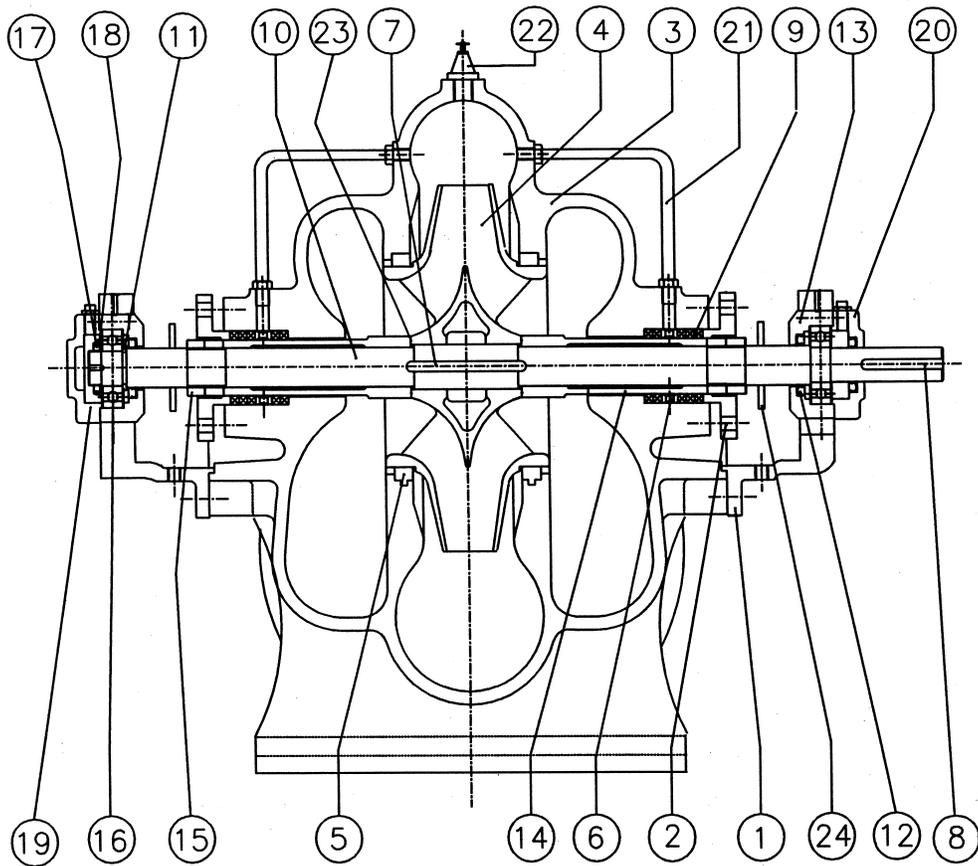

FIGURE 1
**1-2. PUMP.** (See Figure 1.) Disassemble pump to the extent required as follows:
**e.** Place slings around the shaft near the bearing housings and lift rotating element from lower casing (3). Tap lightly on the underside of the bearing housings to separate the housings from the brackets.
- a.** Loosen set screws and remove the coupling half. Tap from the back of the hub or use a puller. Remove coupling key (8), and outboard deflector.
3-1. ROTATING ELEMENT. (See Figure 1) Reassemble as follows: